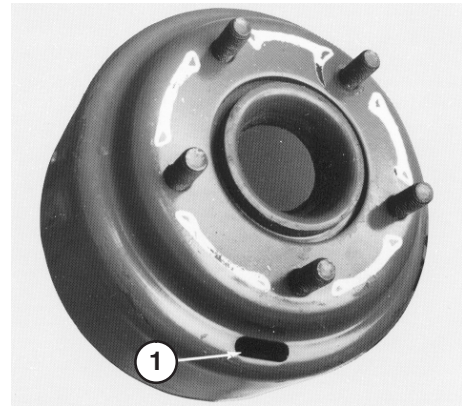
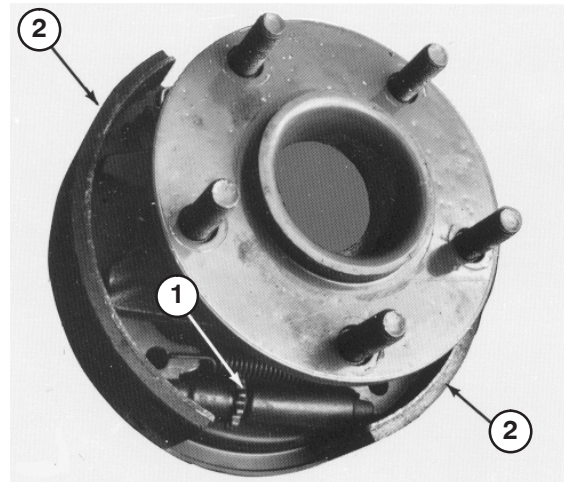

Figure 69
Figure 70
5. Remove wheel nuts and slide wheel and tire assembly off studs. Rotate brake drum until adjusting slot is at bottom and centered over star nut that adjusts brake shoes (Fig. 69).
6. Using a brake adjusting tool or screwdriver, rotate star nut (Fig. 69) down until brake drum (Fig. 70) locks because of outward pressure of brake shoes (Fig. 70).